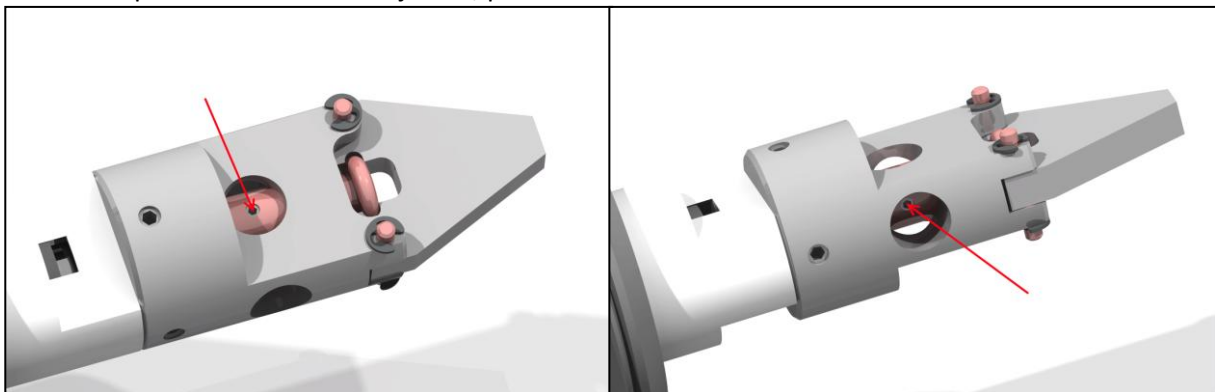

Fig 34 Step 1
- Step 4: After closing the pincer grip, tighten the screws again according to Fig 34.